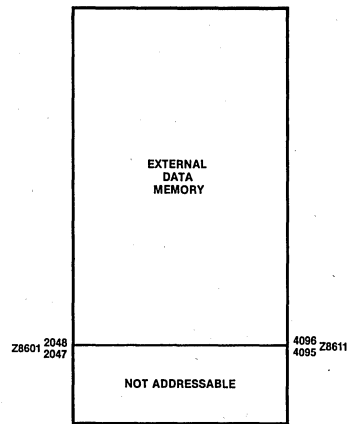

Figure 5. Data Memory Map
**Data Memory.** The Z8 can address 62K (Z8601) or 60K (Z8611) bytes of external data memory beginning at location 2048 (Z8601) or 4096 (Z8611) (Figure 5). External data memory may